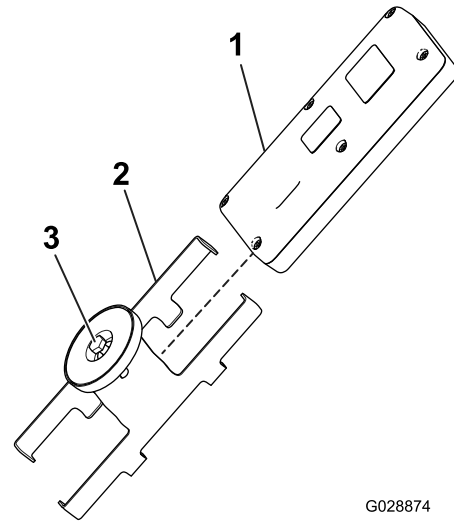

Figure 22
5. Assemble the handheld remote into the magnetic remote bracket, slide the bracket halves together, and tighten the bolt in the magnet (Figure 22).